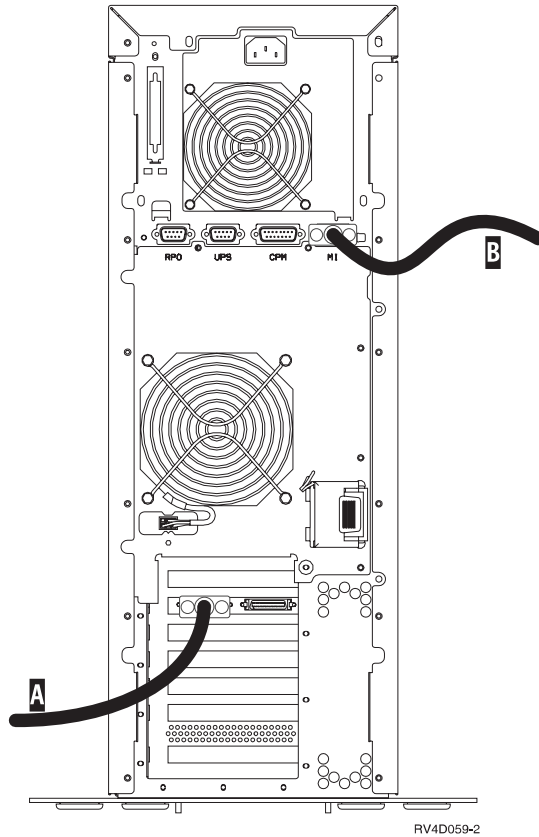

Figure 3. Where to Connect Operations Console and Remote Control Panel Cables
Connect the cable **A** to port 0 (left connector) in position C08 (Figure 3 on page 6) by pushing the cable into the connector. Tighten the thumbscrews.
- ___ 18. Connect the cable **B** to the connector (Figure 3) that is labeled **MI** on the back of your system unit.
- ___ 19. Connect the other end of the cable to an available serial port on your system unit console (PC).